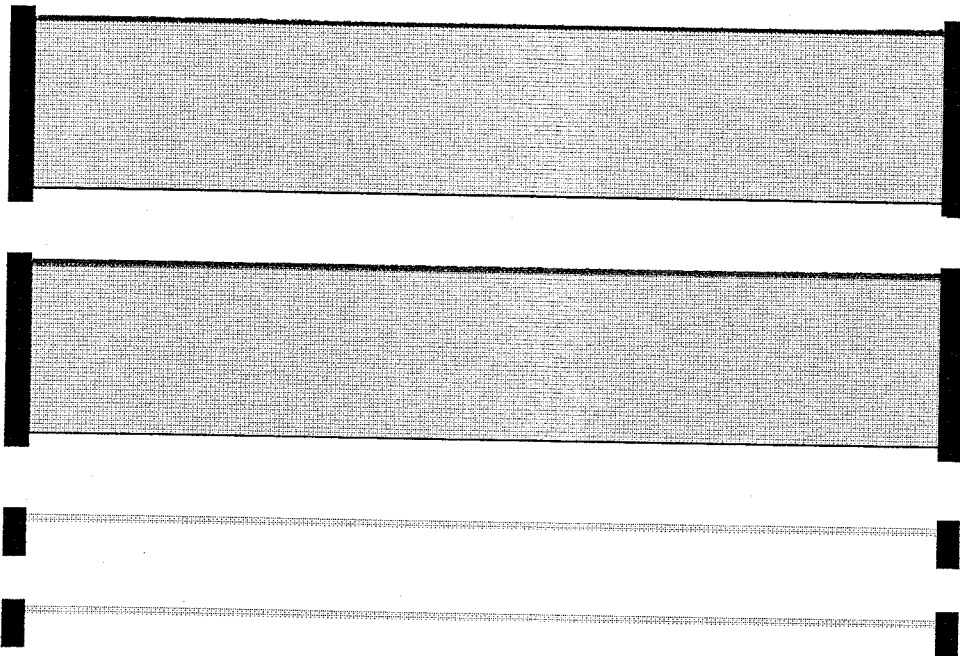

Figure 4, The Cables
- 4) Two (2) Cables (Figure 4)
The Cables, shown in Figure 4, connect the Driver board to the Motherboard. These are **SPECIAL CABLES!** If they are damaged in any way, the BusExpander may fail to perform. Contact your dealer or Bill's Boards if there is any noticeable damage to the either of the cables. **DO NOT try to replace the cables with ordinary grey ribbon cable!** It is extremely important that the cables are plugged in with the correct orientation and location. **DO NOT ATTEMPT TO CONNECT THE CABLES UNTIL YOU HAVE READ AND UNDERSTAND THE SECTION ON CONNECTING THE CABLES.**
**Step 7. Install the cables.** This can be tricky on an Amiga 1000. The two cables supplied are identical. The cables have special shielding and signal transmission properties that use certain pins for their function. IT IS IMPORTANT TO MAKE SURE THE CABLES ARE PLUGGED IN CORRECTLY. FOLLOW THESE INSTRUCTIONS CAREFULLY. The cables have red stripe identifying pin 1. Both connectors on a cable face the same direction. (See Figure 4, The Cables.)
**Step 11. Install the cables.** The two cables supplied are identical. The cables have special shielding and signal transmission properties that use certain pins for their function. **IT IS IMPORTANT TO MAKE SURE THE CABLES ARE PLUGGED IN CORRECTLY. FOLLOW THESE INSTRUCTIONS CAREFULLY.** The cables have a red stripe identifying pin 1. Both connectors on a cable face the same direction. (See Figure 4, The Cables.)